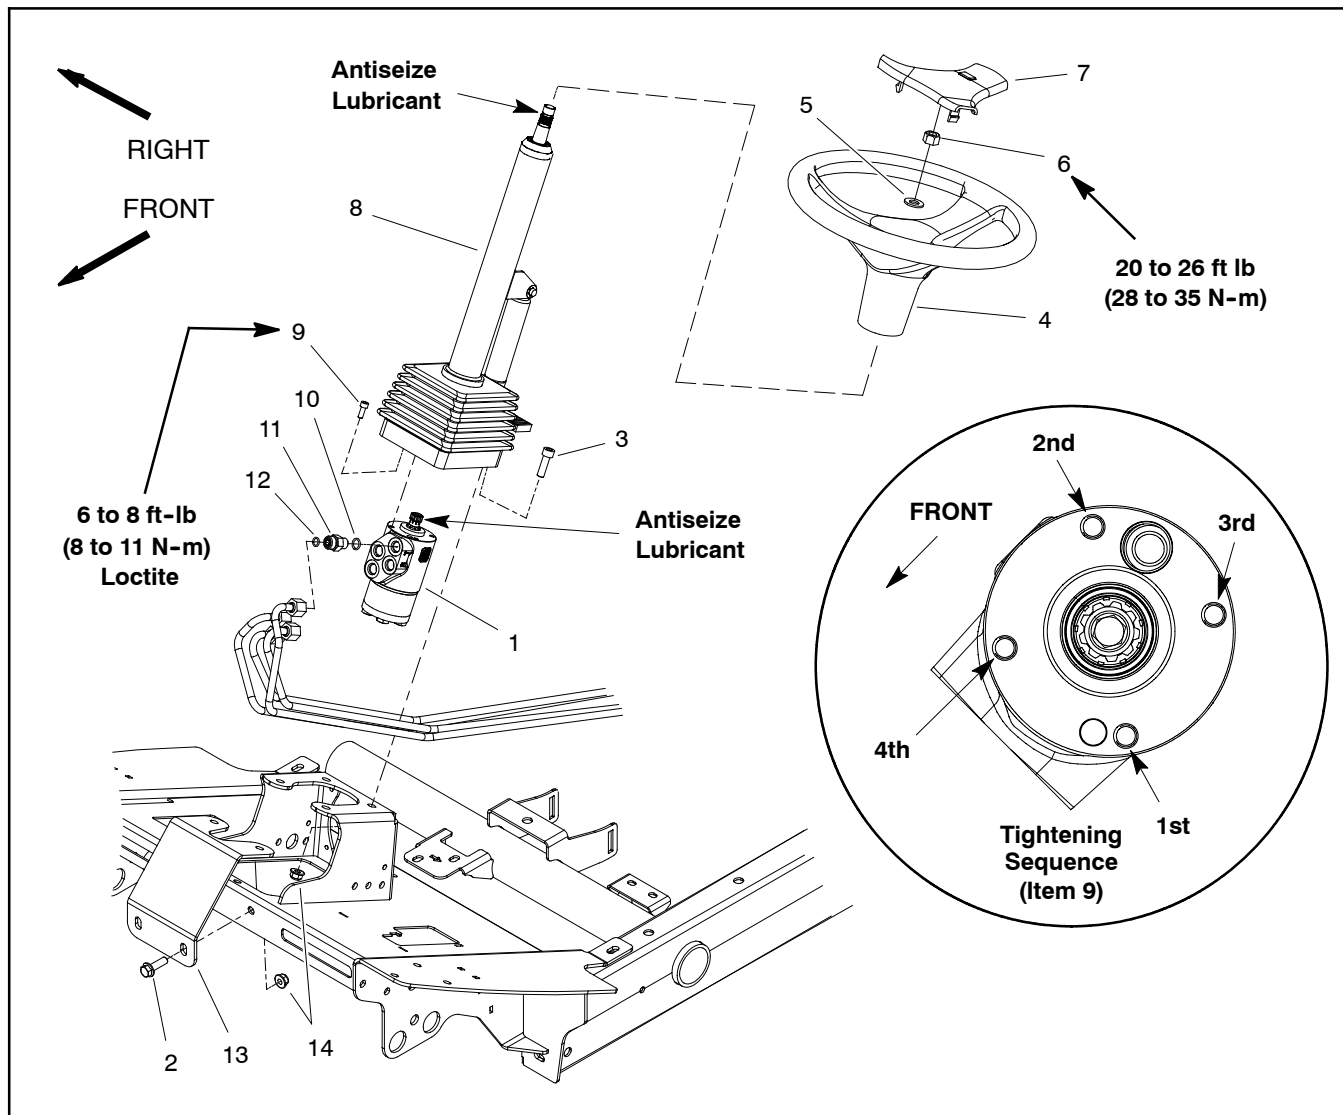
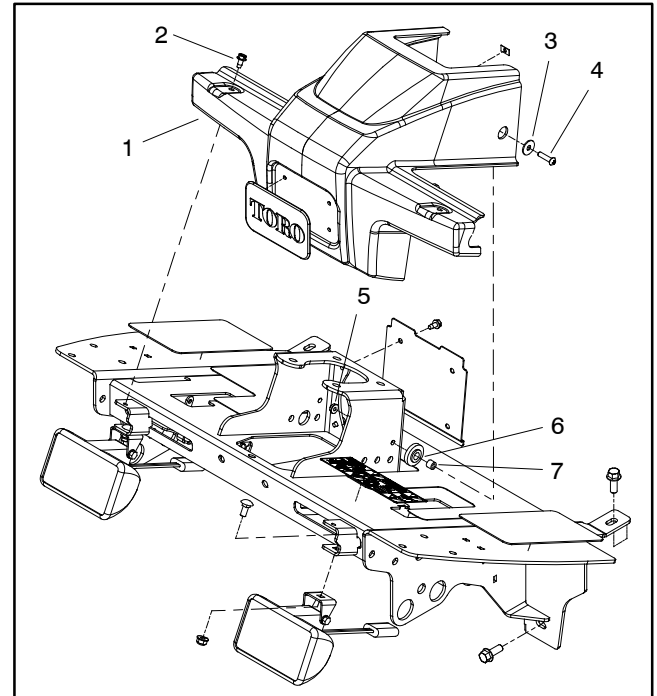
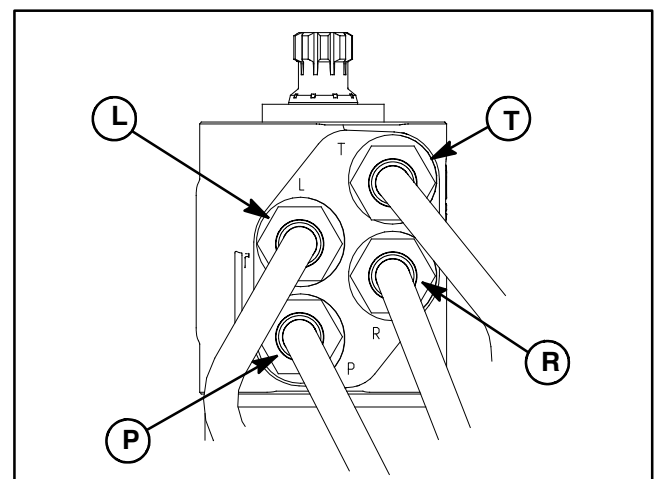

Figure 77
Figure 78
Figure 79
Removal (Fig. 77)
2. Remove fasteners that secure shroud to front of machine (Fig. 78). Remove shroud from machine to allow access to steering control valve. Locate and retrieve two (2) rubber bushings and spacers.
4. Loosen and remove four (4) flange head screws and flange nuts that secure steering column brace (item 13) to machine. Remove brace.
6. Label all hydraulic connections for assembly purposes. Note port designations on steering control valve (Fig. 79). Thoroughly clean hydraulic connections prior to loosening hydraulic lines.
Installation (Fig. 77)
4. Apply loctite to four (4) socket head screws and secure steering control valve to steering column with four (4) socket head screws. Hand tighten screws in the sequence shown in Figure 77. Then, using the same sequence, torque screws from **6 to 8 ft-lb (8 to 11 N-m)**.
5. Position steering column assembly to machine. Secure steering column in place with two (2) socket head screws and flange nuts at rear two mounting holes.
8. Position steering column brace (item 13) to machine and secure with four (4) flange head screws and flange nuts.
10. Place rubber bushings and spacers into holes of shroud (Fig. 78). Position shroud in place and secure with removed fasteners.